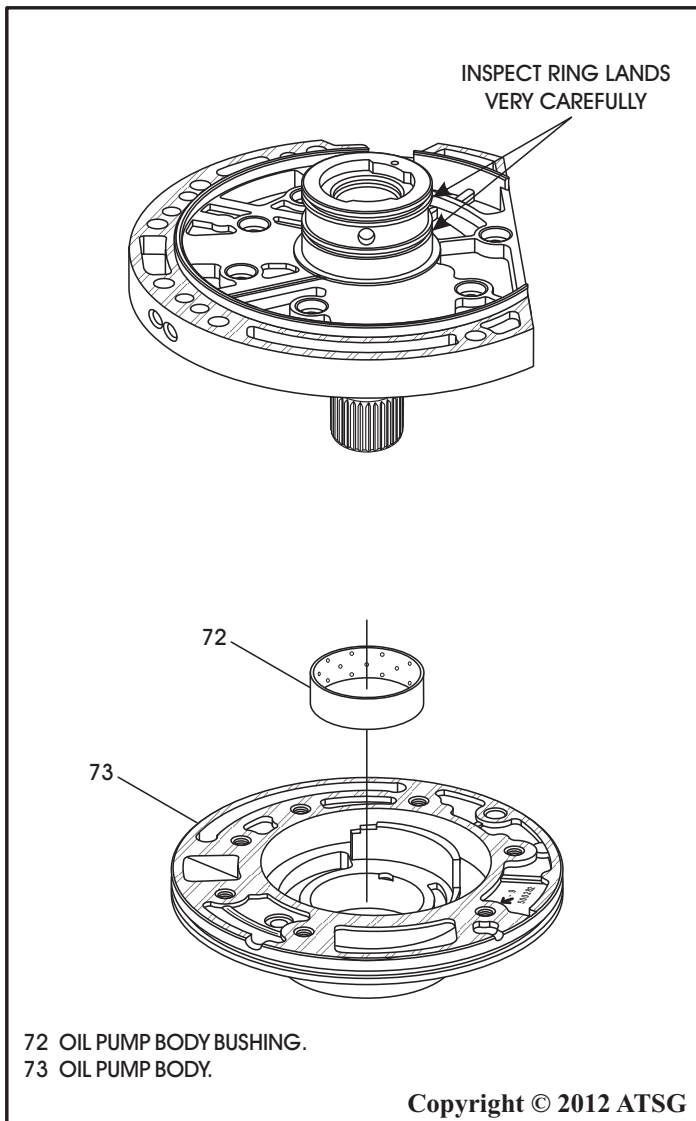

Figure 199
Note: *Inspect ring lands on the pump cover very carefully, as shown in Figure 199. It is very common to see wear here.*
5. Install new oil pump bushing if necessary, as shown in Figure 199, using the proper bushing driver.